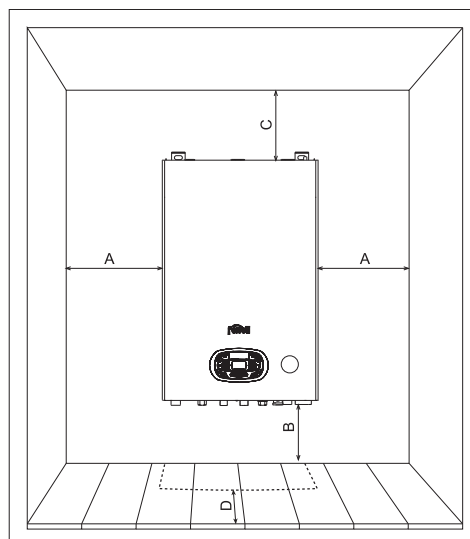

fig. 17 - Minimum distances around the boiler
To drain the boiler turn off the supplied isolation valves underneath, then turn the ring (ref. 1 - fig. 17) anti-clockwise to open the tap. Do not use any tools; use hands only.
If the unit is enclosed in a cabinet or mounted alongside, a space must be provided for removing the casing and for normal maintenance operations. The minimum measurements to be respected are given in fig. 17.